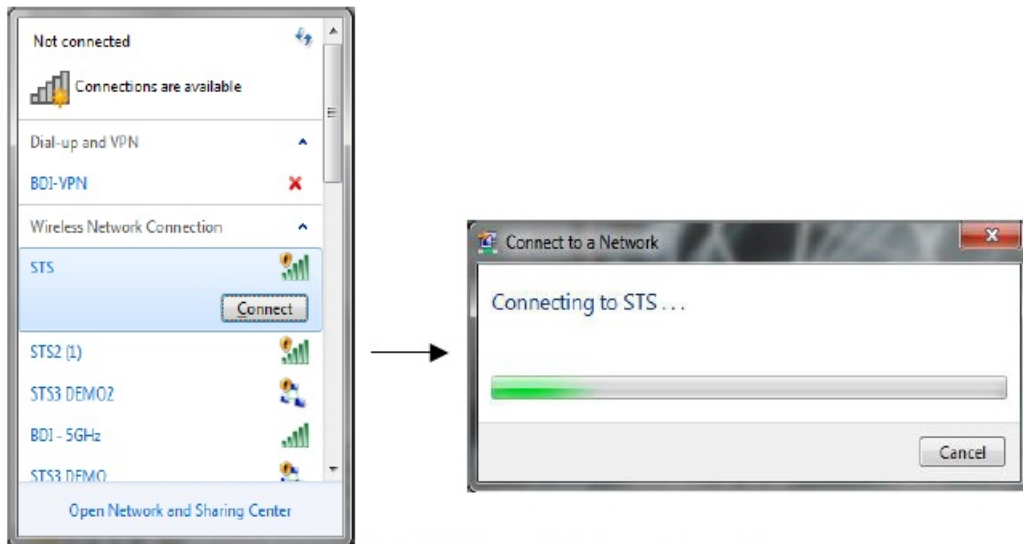

Figure 11: Establishing a Wireless Connection
2. If you are using wireless communication, establish a connection to the “STS” network, as shown in Figure 11.